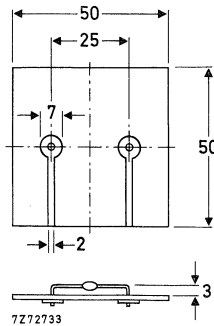

Fig. 2 Device mounted on a printed-circuit board.
2. Thermal resistance from junction to ambient; device mounted on an 1,5 mm thick epoxy-glass printed circuit board; Cu-thickness  $> 40\text{ }\mu\text{m}$ ; Fig. 2 (see "Thermal model")